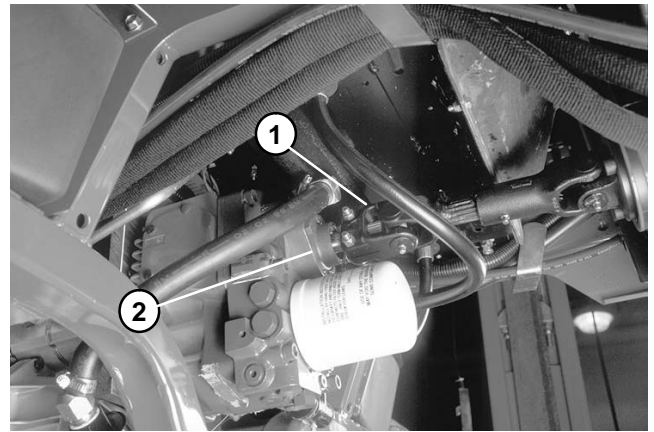

Figure 74
2. Disconnect drive shaft from the transmission (Fig. 74).